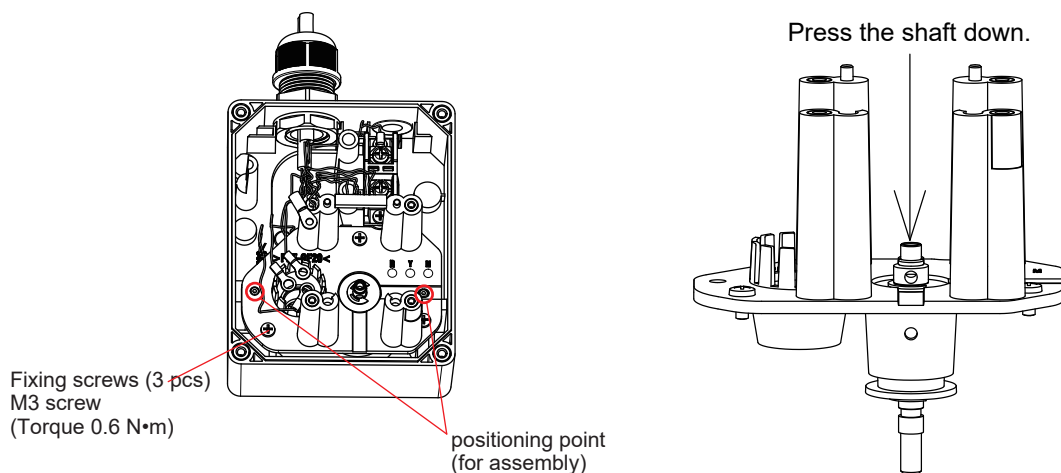

Figure 8.9 Replacement of Driven shaft assembly 3
- (5) Set a new rubber cover and O-ring. Press down the shaft of the new driven shaft assembly. Position them at the two points shown in Figure 8.9. Fasten them with three fixing screws.